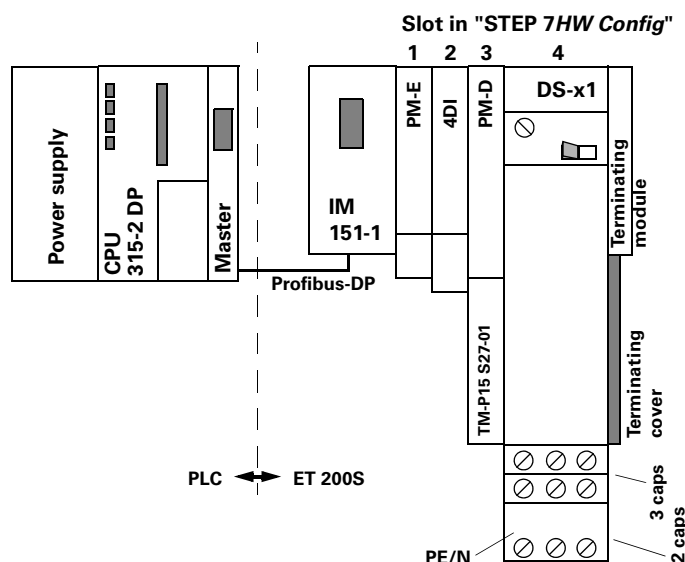

Figure 2-1: Components and setup for the example
- The 2 caps for PE and N (included with PE/N terminal block) (see Figure 2-1)